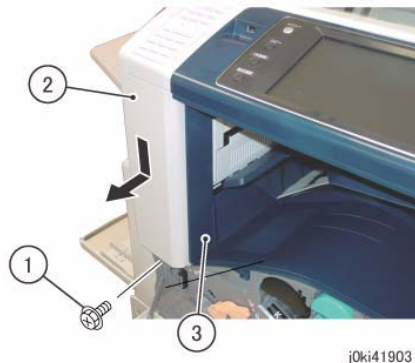

Figure 3 Remove the Front Left and Front Exit Covers
7. Remove the Front Left Cover and the Exit Front Cover. (Figure 3)